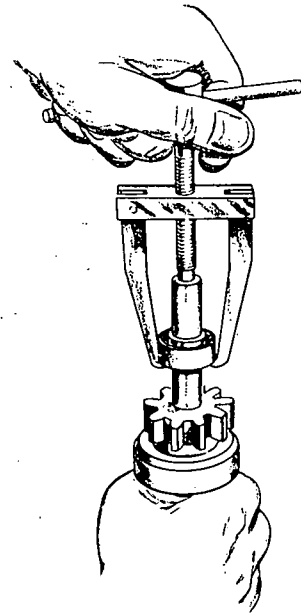

FIGURE 38. MOUNTING OVERRUNNING CLUTCH
3. To mount overrunning clutch, first insert pinion stopper in armature shaft; then install ring in groove of the shaft. For insertion of the ring, use tool shown in Figure 38 and pull the pinion stopper up.